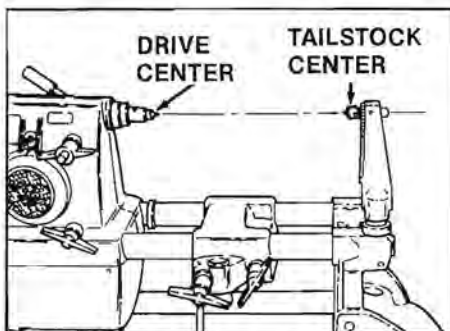

Figure 3. Both the drive center and tailstock center must be directly in line with each other in order to properly support a workpiece.
4. **Align the lathe centers.** (See Figure 3.) Align the drive center and the tailstock center. (Refer to the Mark V Owners Manual.)